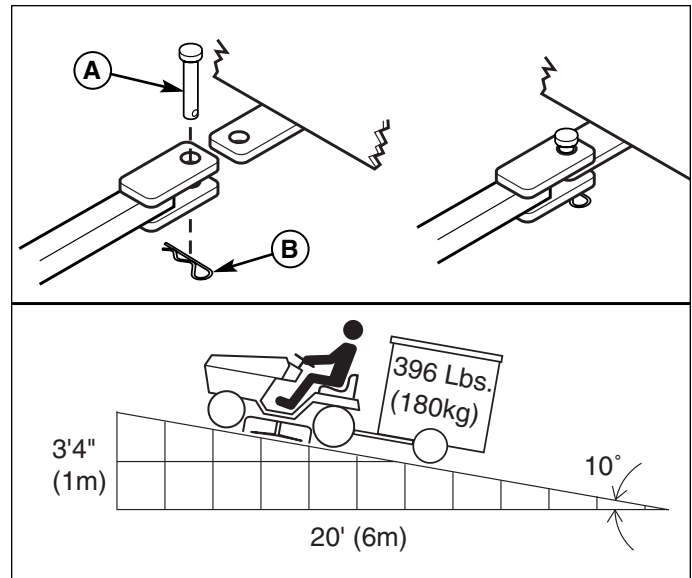

Figure 16. Trailer Weight Recommendations
The maximum horizontal drawbar force allowed is 444 Nm. The maximum vertical drawbar force is 222 Nm. This equates to a 396 lbs (180 kg) trailer on a 10 degree hill. Secure the trailer with an appropriately sized clevis pin (A, Figure 16) and clip (B).